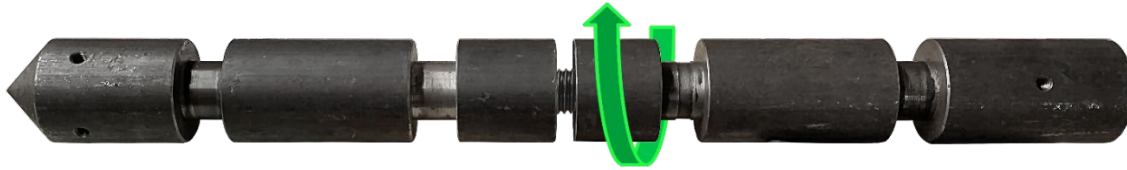

Figure 15 - Assemble the Two Large Anchor Pieces
- 1) Assemble the two halves of the grout anchor by threading them together (Figure 15).